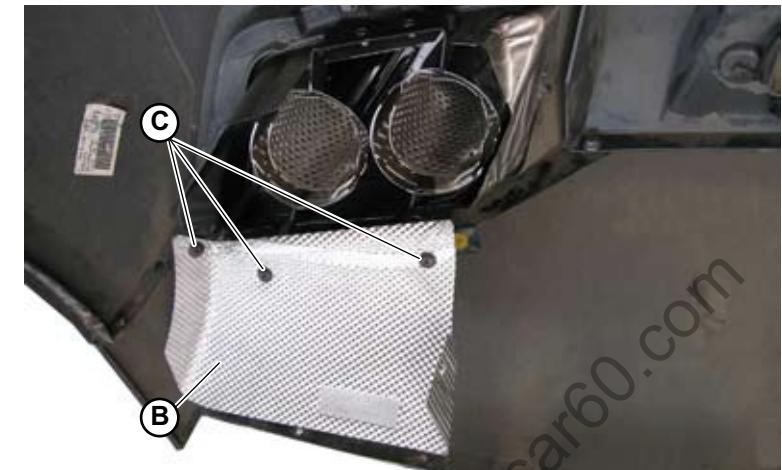

Fig.15
2. Position the heat-proof panel (**B-Fig.15**) and secure using the 3 corresponding fixing screws (**C-Fig.15**).